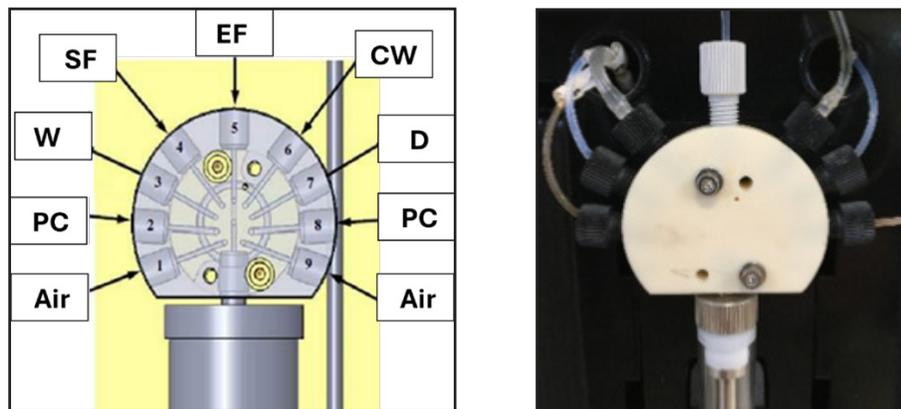

Figure 5.21 Syringe Pump Tubing Diagram (left) and Syringe Pump (right)
- a. To flush the internal ESM Performance Check Solution tubing, remove the PC tubing from the ESM syringe pump (Port #2 in *Figure 5.21*).
- b. To flush the internal ESM Waste tubing, remove the W tubing from the ESM syringe pump (Port #3 in *Figure 5.21*).
- c. To flush the internal ESM System Fluid tubing, remove the SF tubing from the ESM syringe pump (Port #4 in *Figure 5.21*).
- d. To Flush the internal ESM Depro Tubing, remove the SF tubing from the ESM syringe pump (Port #7 in *Figure 5.21*).